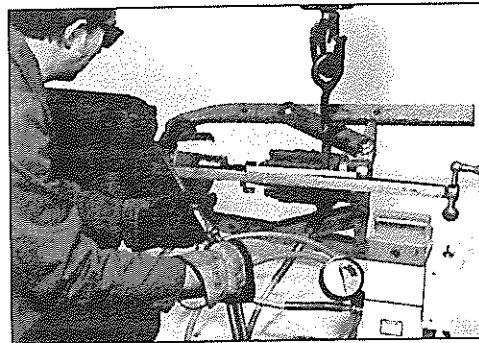

Figure 6-43
2. If the hub is to be replaced, remove the fan (see Item B) and install a suitable puller to the hub. Remove the two setscrews in the hub over the key. Using a torch, rapidly heat the hub at the outer diameter while tightening the puller (this must be done rapidly before the heat can expand the shaft). Remove the hub (figure 6-43).